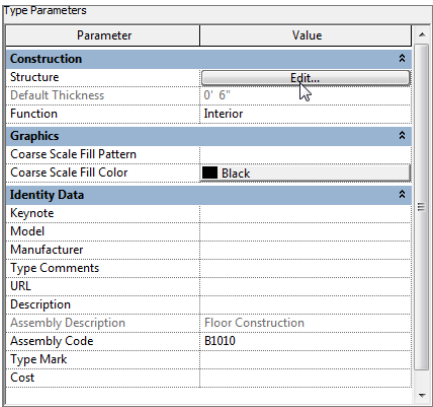

FIGURE 6.37: Editing the structure of the slab
10. Click the Edit button in the Structure row, as shown in Figure 6.37.